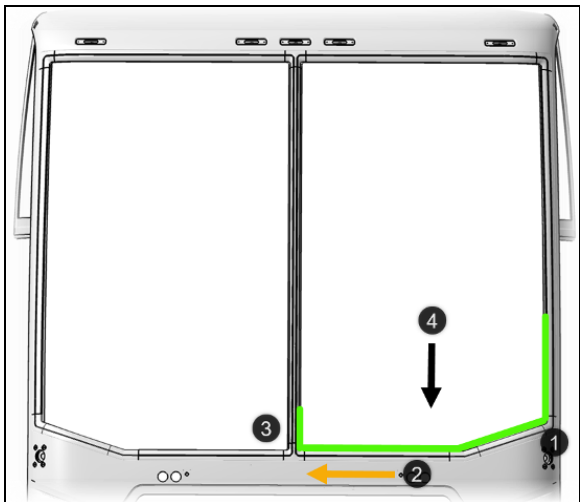

FIGURE 66
1. Spray the groove at the bottom of the rubber extrusion with soapy water to ease windshield insertion (Figure 66).